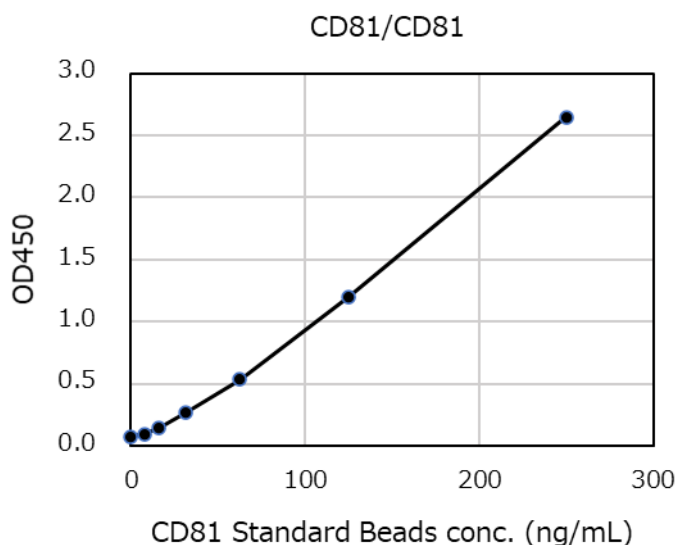

Fig.1 Example of Standard curve for CD81 Standard Beads.
14. Create a standard curve for the CD81 protein by plotting the mean absorbance (y axis) against the CD81 Standard concentration (x axis) (Fig. 1).